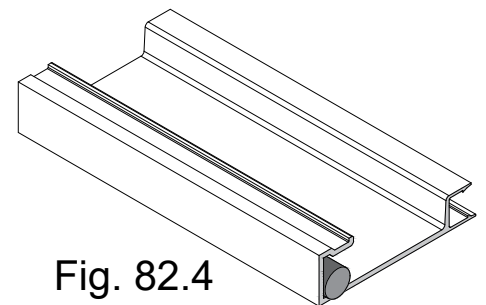

Fig. 82.4
STEP 2: Install section of back rod behind front face as shown in Fig. 82.4. at horizontal and vertical splice.